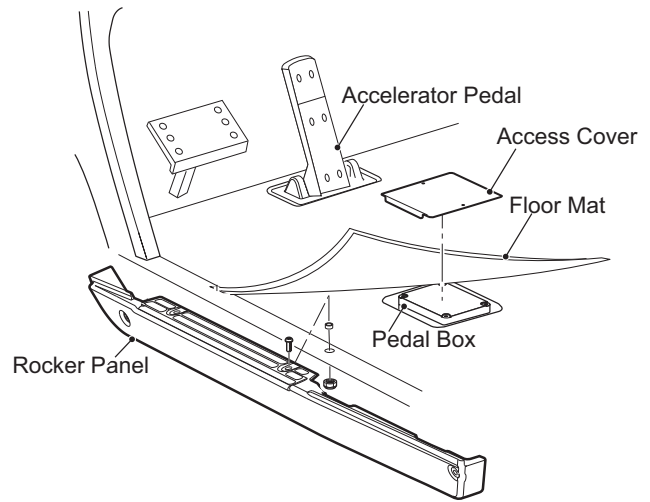

Figure 1 Access to Pedal Box
3. Remove the access cover from the floor (Ref. Figure 1).